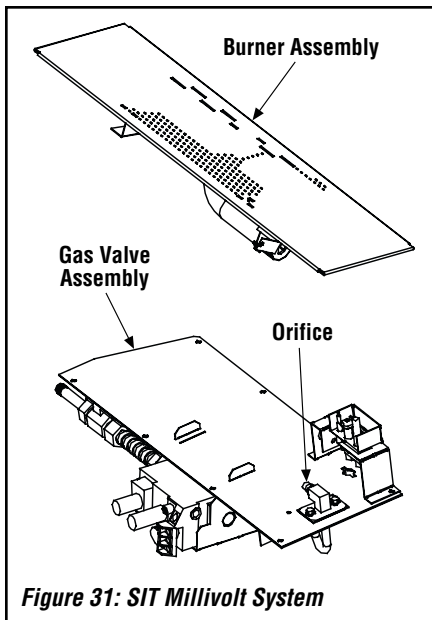

Figure 31: SIT Millivolt System
**Step 4.** Refer to **Figure 31**. Remove the burner assembly with attached venturi tube.
**Step 10.** Refer to **Figure 31**.